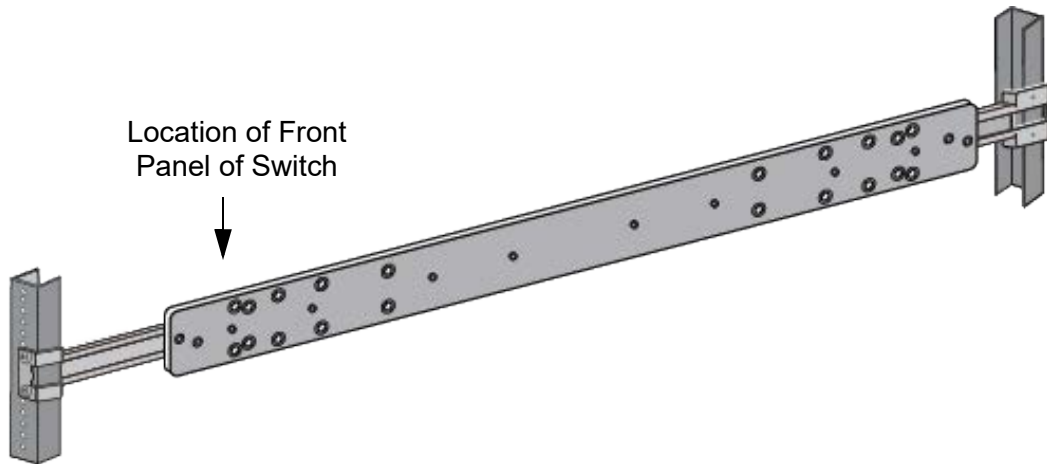

Figure 76. Example of Positioning the Inner Rail
2. Position the inner rail at the planned location for the front panel of switch in the sliding rack. Refer to Figure 76.